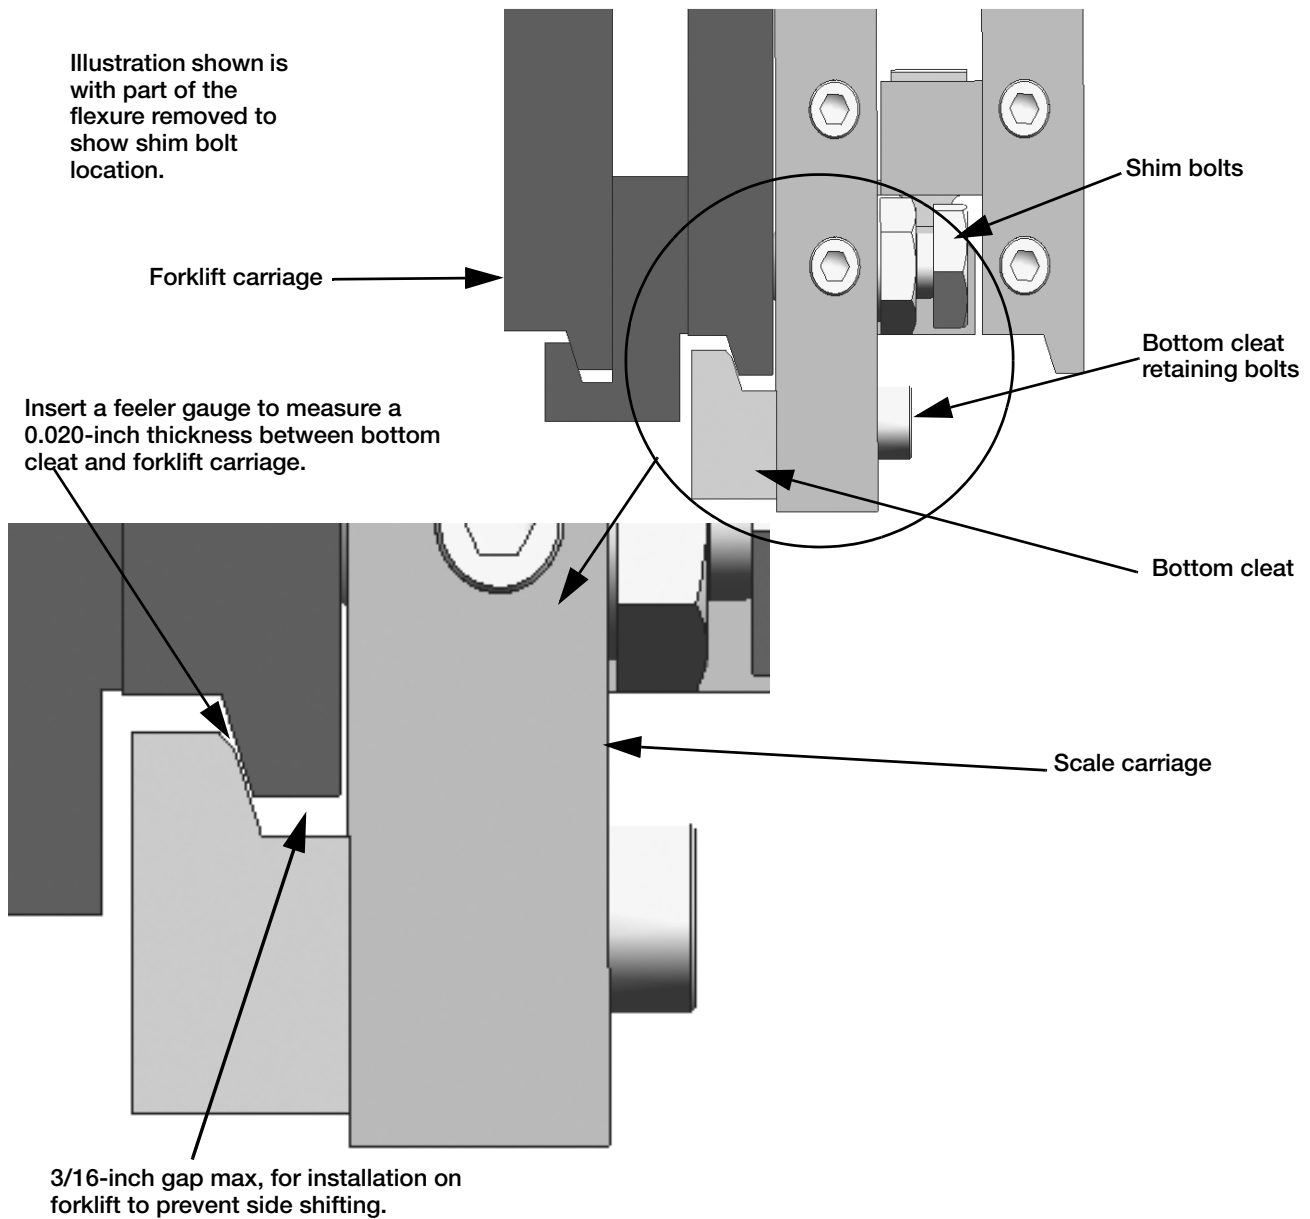

Figure 2-5. Bottom Cleat Location and Assembly
6. Attach the bottom cleats to the bottom of the scale assembly (see Figure 2-5 for bottom cleat location), so that the lip of the cleat is behind the scale carriage.